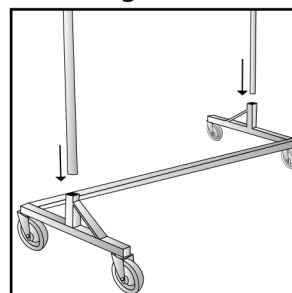

Figure 5
6. Insert the vertical support bars into the frame. (Figure 5)